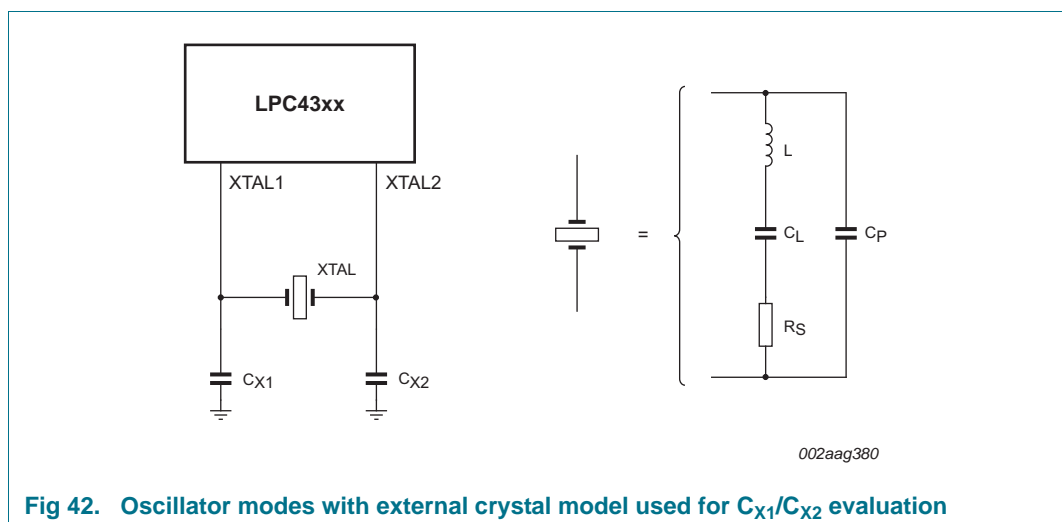

Fig 42. Oscillator modes with external crystal model used for C_{X1}/C_{X2} evaluation
- External components and models used in oscillation mode are shown in Figure 42, and in Table 40 and Table 41. Since the feedback resistance is integrated on chip, only a crystal and the capacitances C_{X1} and C_{X2} need to be connected externally in case of fundamental mode oscillation (L , C_L and R_s represent the fundamental frequency). Capacitance C_P in Figure 42 represents the parallel package capacitance and must not be larger than 7 pF. Parameters F_C , C_L , R_s and C_P are supplied by the crystal manufacturer.